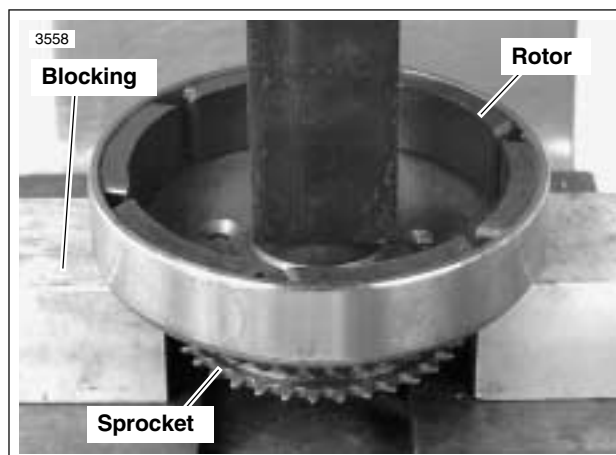

Figure 7-45. Removing Rotor From Sprocket
2. See Figure 7-45. Position blocking under rotor. Press sprocket free of rotor.